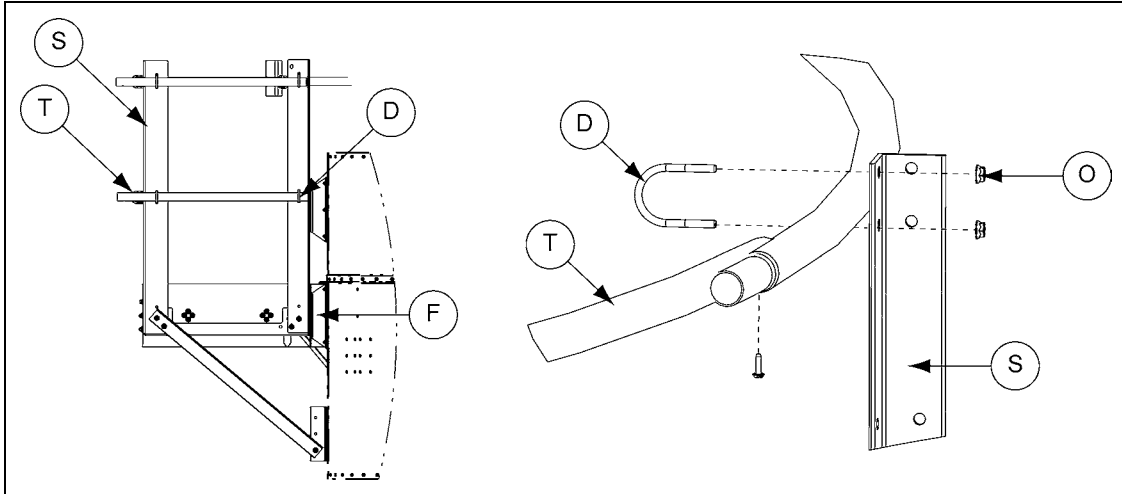

Figure 3G
8. Install the handrails (T) to the handrail posts (S) using U-bolts (D) and nut (O). (See Figure 3G.)